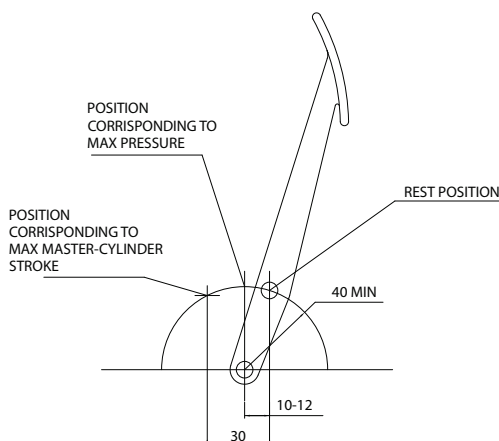

Fig. 1a
- For a more linear operation of the brake pedal/master-cylinder mechanism, it is important that the distance between the pedal fulcrum and the push rods is equal or greater than 40 mm (see Fig. 1a).